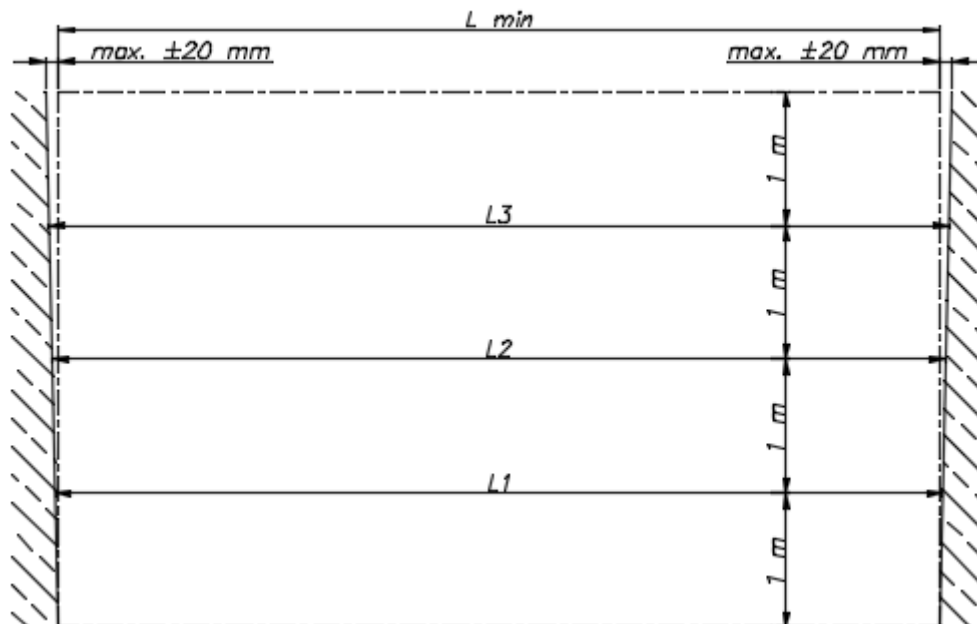

Fig.3. How to measure the width of a room
- width of the measured room **L** (Fig.3)
Measure the width **from wall to wall every 1 m** from the floor (Fig.3), preferably using a laser rangefinder